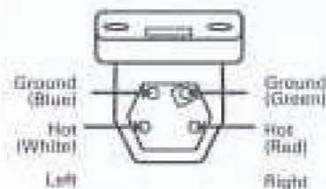

Fig.2
(2) Connections. The contact pins are colour coded according to the International Standard Colour Code. Connect the four pickup leads to the corresponding pins on the cartridge (see Fig.2).